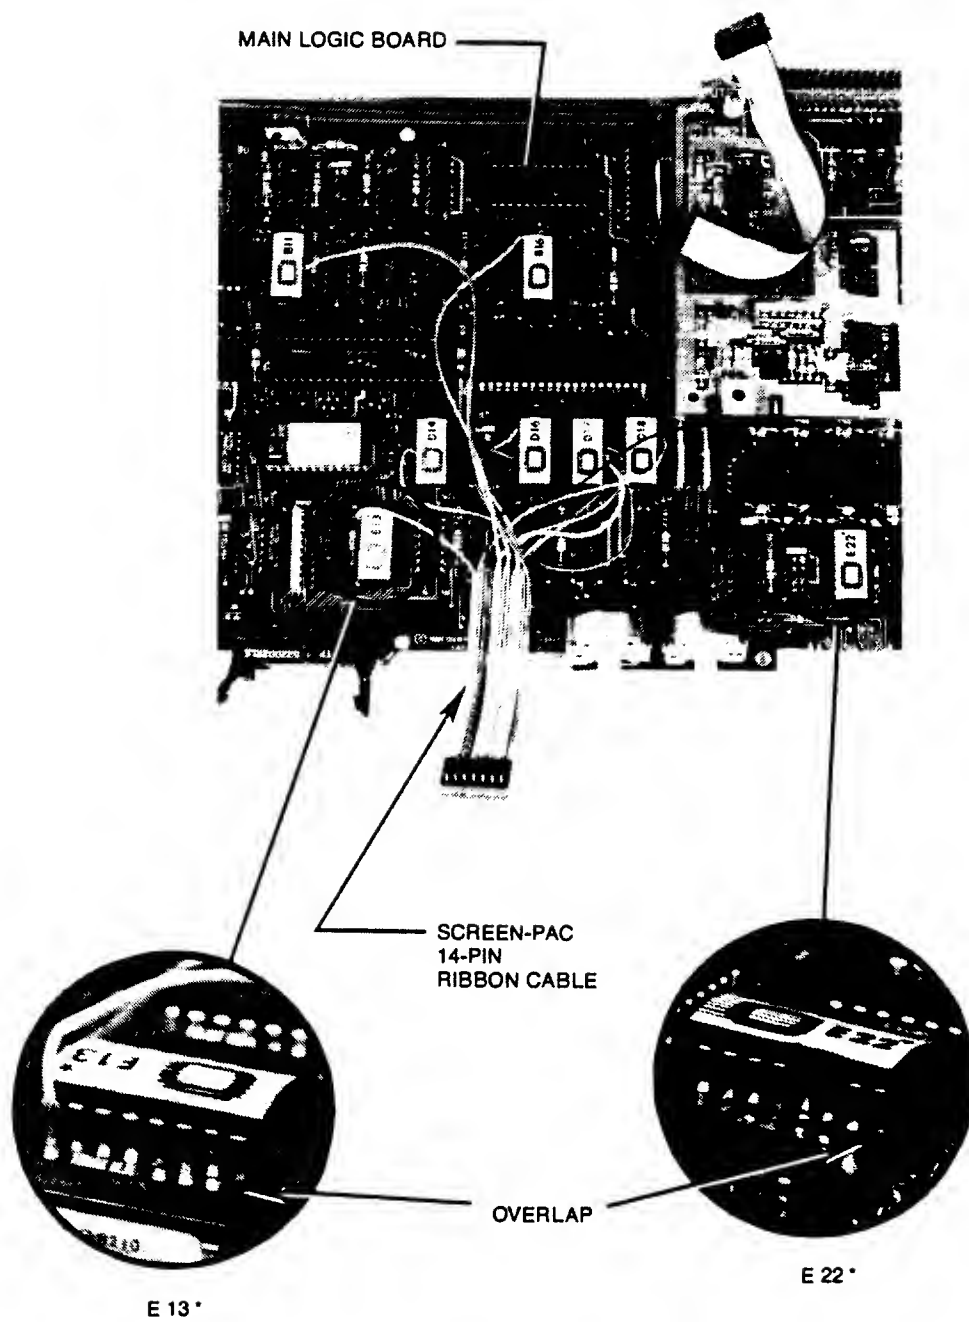

FIGURE 6-32. CHIP POSITIONINGS
- 6.12.2.1 The SCREEN-PAC ribbon cable has a 14-pin connector on one end. The other end splits into 8 segments, each attached to a clip. Each clip is labelled and fits onto one of the logic board IC chips (Figure 6-32).
E13 and E22 are 14-pin chips. Install E13* so pins 7 and 8 overhang chip E13. Install E22* so pins 1 and 14 overhang chip E22 (Figure 6-32).